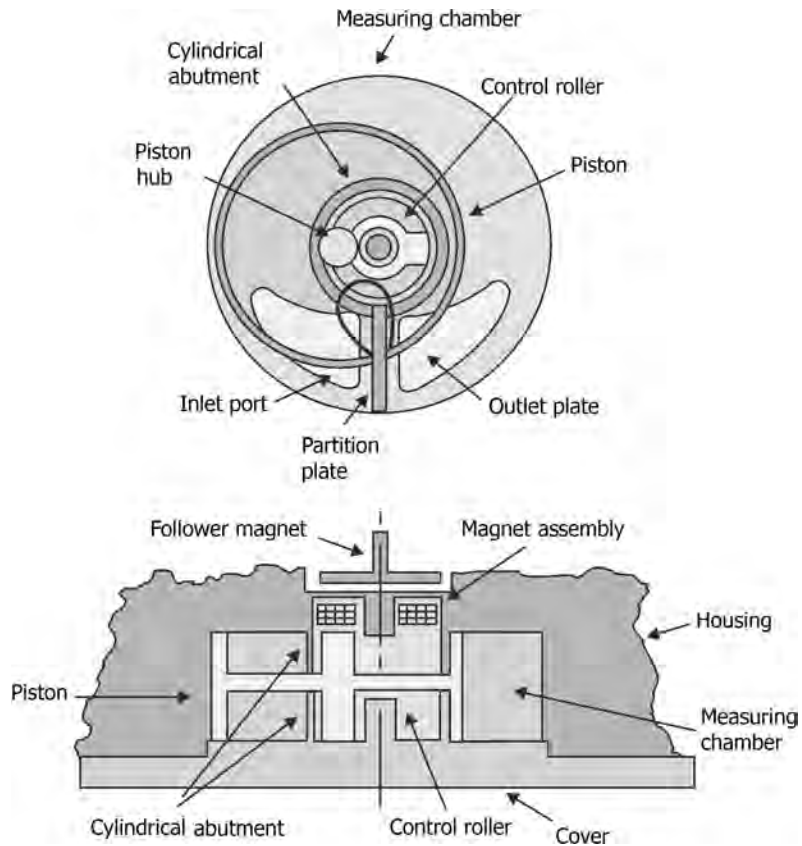

FIGURE 4.33 Oscillating piston positive displacement flow meter.
- Figure 4.33 illustrates an oscillating piston positive displacement flow meter.